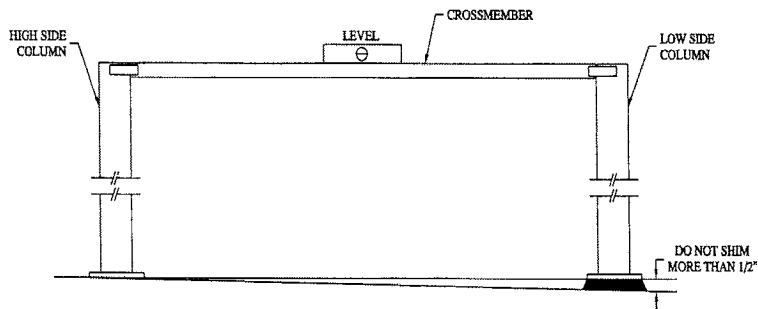
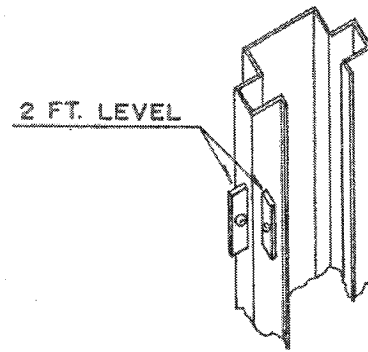
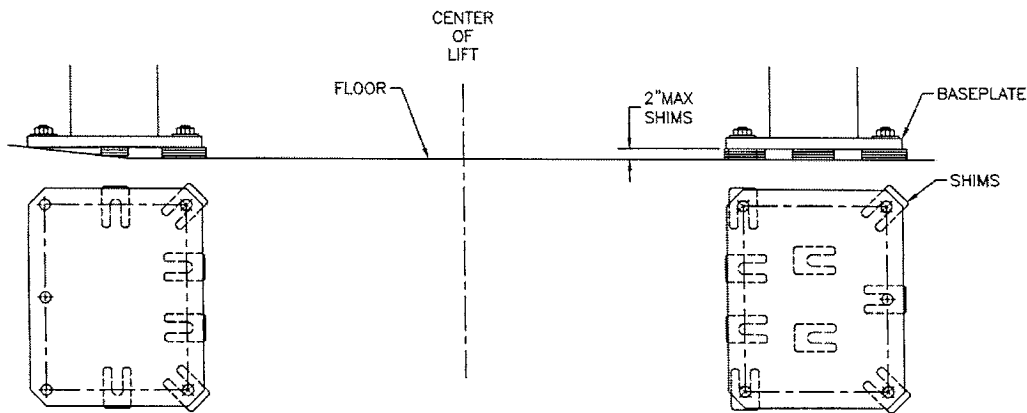

Figure 13 – Crossmember Leveling
Figure 14 – Tower Leveling
Figure 15 – Shim Placement
1. Using a 4ft. level on top of the crossmember, determine which column is higher (**Figure 13**).
2. Using 2 ft. level on the sides of the high column, ensure that the column is level in the vertical position (**Figure 14**). Use shims under the column baseplate to hold the column level. Ensure that the base plate is completely supported by shims where it does not contact the floor (**Figure 15**).
5. Reconfirm that the column is level front to rear and side to side (**Figure 14**). Add or remove shims as required.
1. Using a 4ft. level on the crossmember (**Figure 14**) and a 2ft. level on the low side column (**Figure 14**), shim underneath the baseplate until the crossmember and column are level. Ensure that the baseplate is completely supported by shims where it does not contact the floor (**Figure 15**).
4. Reconfirm that the crossmember is level (**Figure 13**) and that the column is level front to rear and side to side (**Figure 14**). Add or remove shims as required.